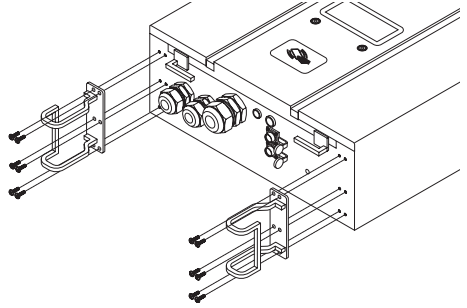

Fig. 4: Orientation of cable holders
- Using six M6 screws, fasten each cable holder to the bottom sides of the charging unit (see Fig. 4).
- ⓘ The open side of the cable holders must face outwards (see Fig. 4).